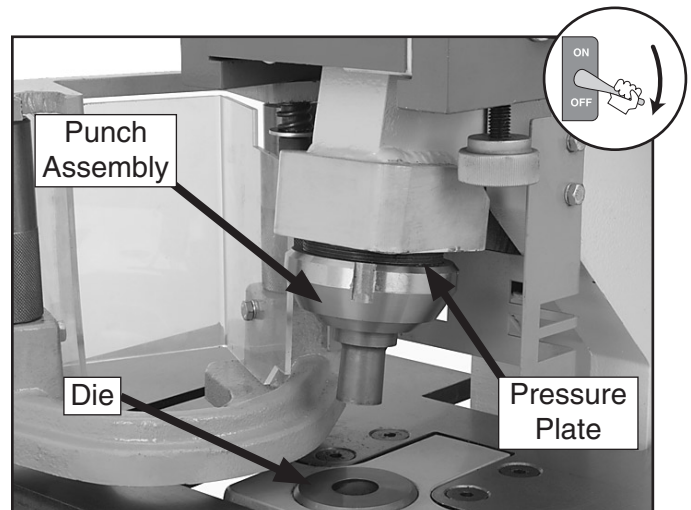

Figure 22. Punch, adapter, retaining ring, and die installed.
- Center the assembly up against the punch pressure plate, then hand-tighten the retaining ring to secure it in place (see **Figure 22**).
8. Insert the die into the punch bolster with the larger opening down, but do not tighten the set screws (see **Figure 22**).